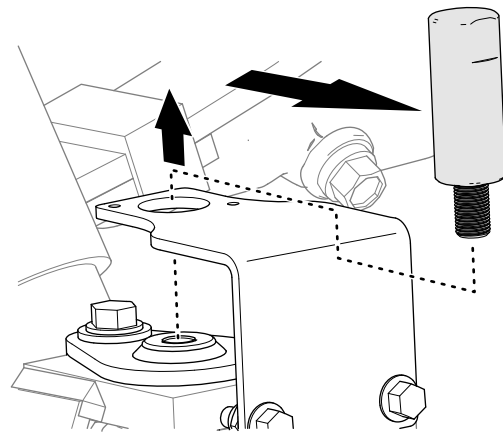

Figure 8
6. Remove the alignment tool (Figure 8).